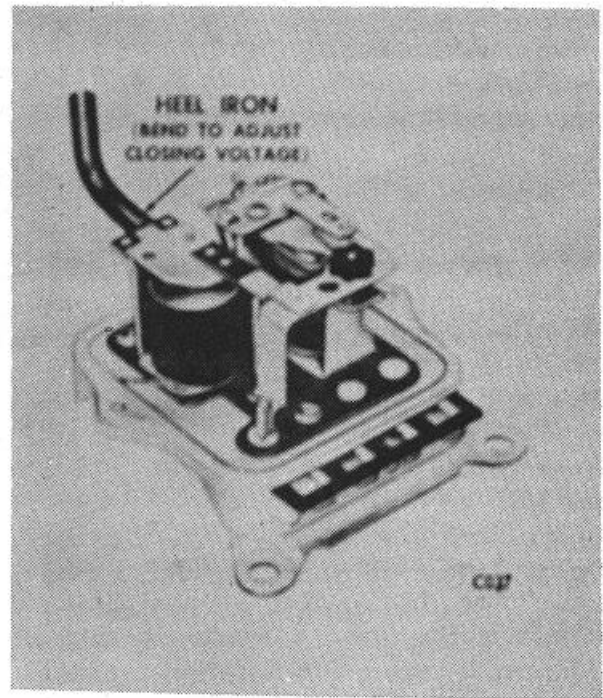

Figure 28.
b. Slowly decrease resistance and note closing voltage of the relay. Adjust by bending heel iron. (Fig. 28) NOTE: If the field relay unit does not have an armature stop, a point opening check is not required.